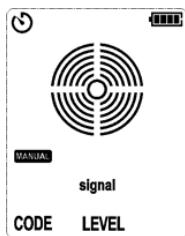

Figure 10.2.3a No Signal Detected
1. Power on the receiver and then short press the AUTO/MANUAL button to switch to manual mode, as shown in Figure 10.2.3a.